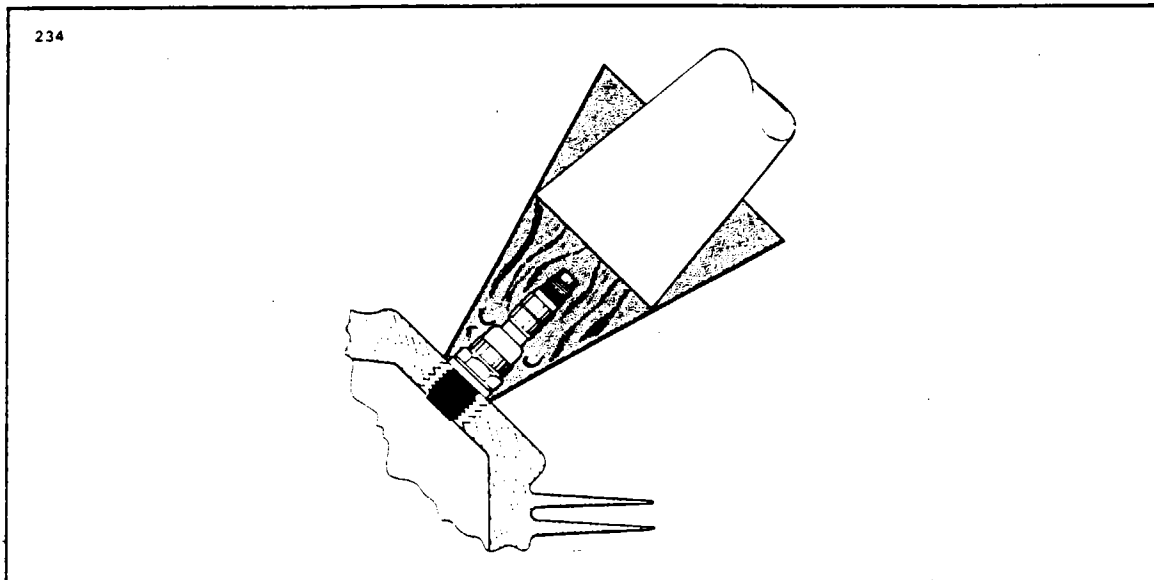

Figure 7A-53. Removing Spark Plug Frozen to Bushing
d. Removal of seized spark plugs in the cylinder may be accomplished by application of liquid carbon dioxide by a conical metal funnel adapter with a hole at the apex just large enough to accommodate the funnel of a CO2 bottle. (Refer to Figure 7A-53.) When a seized spark plug cannot be removed by normal means, the funnel adapter is placed over and around the spark plug. Place the funnel of the CO2 bottle inside the funnel adapter and release the carbon dioxide to chill and contract the spark plug. Break the spark plug loose with a wrench. A warm cylinder head at the time the carbon dioxide is applied will aid in the removal of an excessively seized plug.